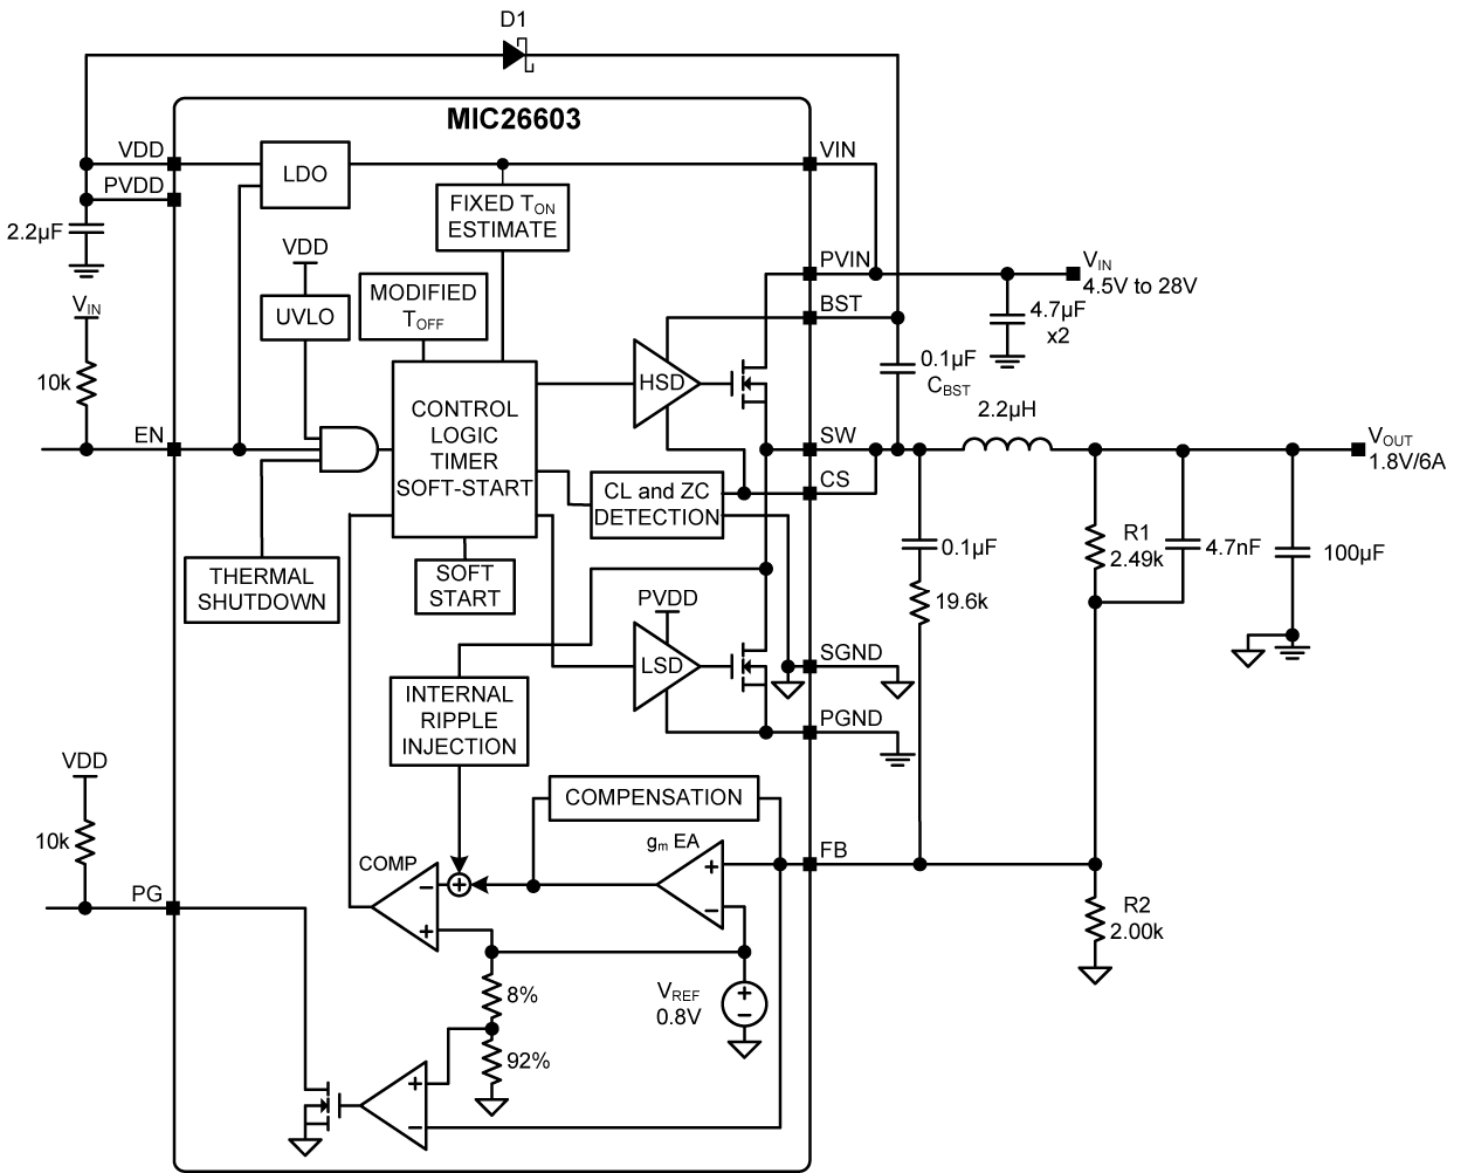

Figure 1. MIC26603 Block Diagram
The MIC26603 is able to operate in either continuous mode or discontinuous mode. The operating mode is determined by the output of the Zero Cross comparator (ZC) as shown in Figure 1.
The Block Diagram (Figure 1) shows a bootstrap circuit, consisting of D1 (a Schottky diode is recommended) and  $C_{BST}$ . This circuit supplies energy to the high-side drive circuit. Capacitor  $C_{BST}$  is charged, while the low-side MOSFET is on, and the voltage on the SW pin is approximately 0V. When the high-side MOSFET driver is turned on, energy from  $C_{BST}$  is used to turn the MOSFET on. As the high-side MOSFET turns on, the voltage on the SW pin increases to approximately  $V_{IN}$ . Diode D1 is reverse biased and  $C_{BST}$  floats high while continuing to keep the high-side MOSFET on. The bias current of the high-side driver is less than 10mA so a 0.1 $\mu$ F to 1 $\mu$ F is sufficient to hold the gate voltage with minimal droop for the power stroke (high-side switching) cycle, i.e.  $\Delta BST = 10\text{mA} \times 1.67\mu\text{s}/0.1\mu\text{F} = 167\text{mV}$ . When the low-side MOSFET is turned back on,  $C_{BST}$  is recharged through D1. A small resistor  $R_G$ , which is in series with  $C_{BST}$ , can be used to slow down the turn-on time of the high-side N-channel MOSFET.